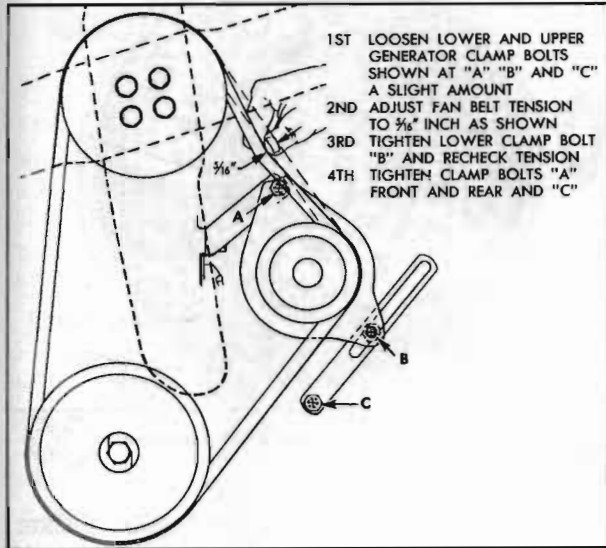

Figure 10-15—Fan Belt Adjustment
5. Check fan belt for condition and proper tension (fig. 10-15), and make certain that all generator mounting bracket and brace bolts are tight. A loose fan belt will permit belt slippage, resulting in rapid belt wear and low or erratic generator output. An excessively tight belt will cause rapid belt wear and rapid wear of generator and water pump bearings. **NOTE:** *If belt requires adjustment, first loosen belt so that pulley is free, then check pulley for tightness and check generator bearings for freeness of rotation and excessive side play. Tight or excessively worn bearings should be cleaned or replaced.*
4. If 40 amperes cannot be obtained at approximately 1100 RPM of engine check fan belt for proper tension (fig. 10-15). If fan belt is not slipping the generator does not have proper output. Remove generator for bench test (par. 10-27) and make necessary corrections before attempting any adjustment of generator regulator.